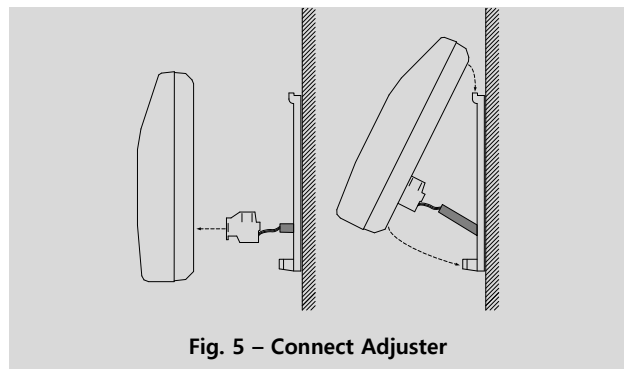

Fig. 5 – Connect Adjuster
4. Plug the connector into the Adjuster with the screw terminals up (Fig. 5).
6. Hang the Adjuster on the top tabs of the Wall Plate and then snap the bottom in place (Fig. 5).
screw terminals up (Fig. 5).
6. Insert the top tabs of the Wall Plate into the top of the Adjuster and then snap the bottom in place (Fig. 5).